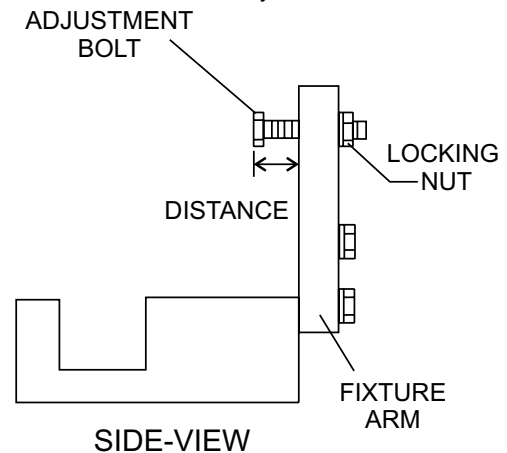

Figure 42. Trowel Arm Adjustment Tool Side View
Shown in Figure 42 is the adjustment fixture with a trowel arm inserted. As each trowel arm is locked into the fixture, the arm bolt is adjusted to where it contacts a stop on the fixture. This will consistently adjust all of the trowel arms, keeping the finisher as flat and evenly pitched as possible.
5. Adjust the bolt "distance" shown in Figure 42 to match one of the arms. The other arms will be adjusted to match this distance.